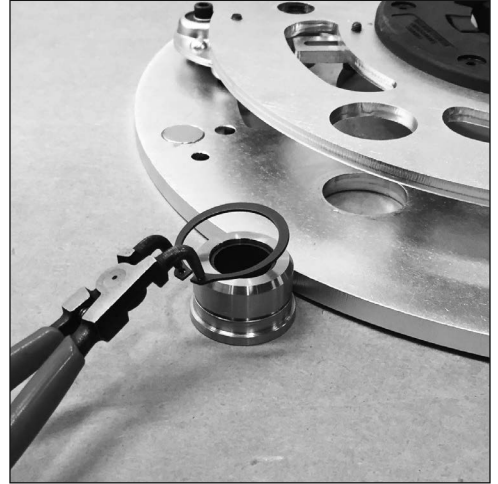

FIG. 5
3. Remove the bearing assembly from the base plate (Figure 5).
5. Install the retaining ring using retaining ring pliers (Figures 5 and 6).